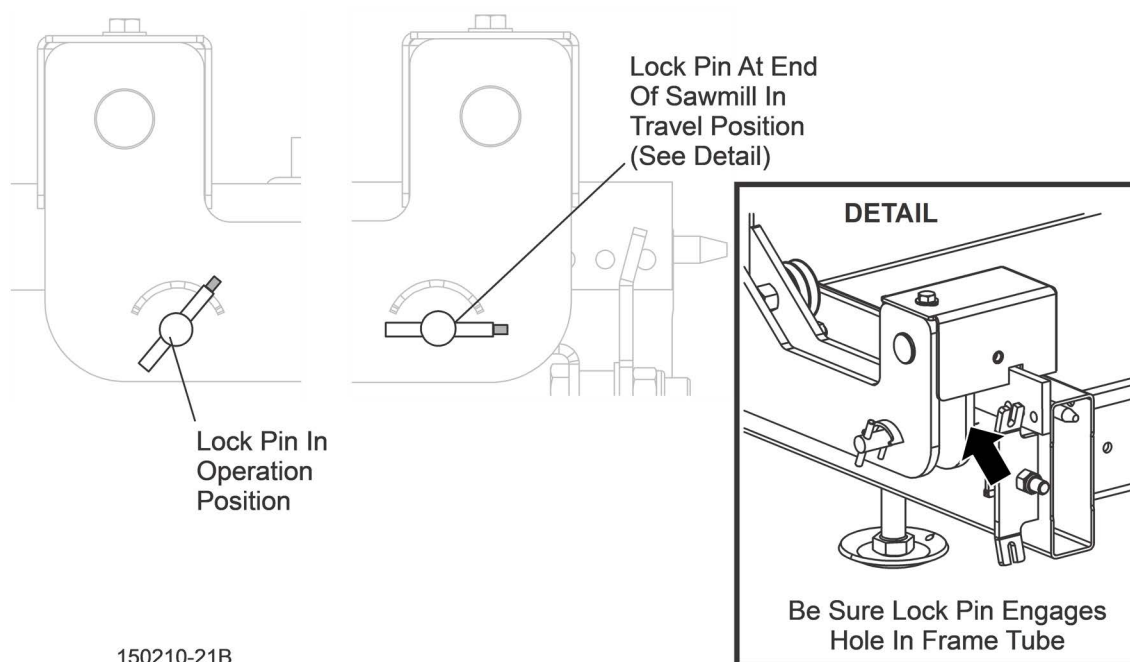

FIG. 6-10
1. Remove the leg assemblies or adjust them above the bottom of the bed frame. See FIGs. 6-10 and 5-16. See Section 8.5 for a detailed description of carriage lock pin operation.